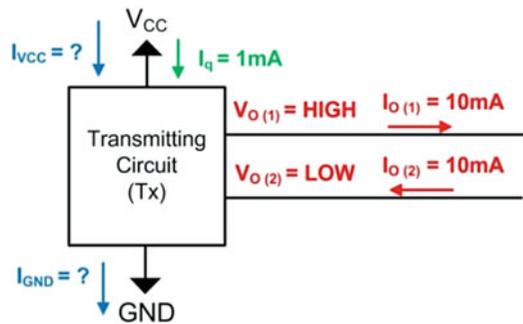

Fig. 3.37
- 3.2.11 For the driver configuration in Fig. 3.37, give the current flowing through the V_{CC} pin.
- 3.2.12 For the driver configuration in Fig. 3.37, give the current flowing through the GND pin.